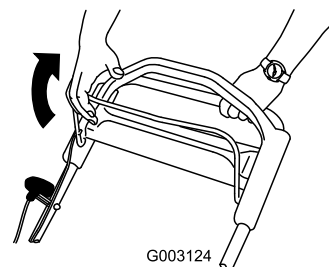

Figure 15
1. Pull the blade control bar to the handle (Figure 15).